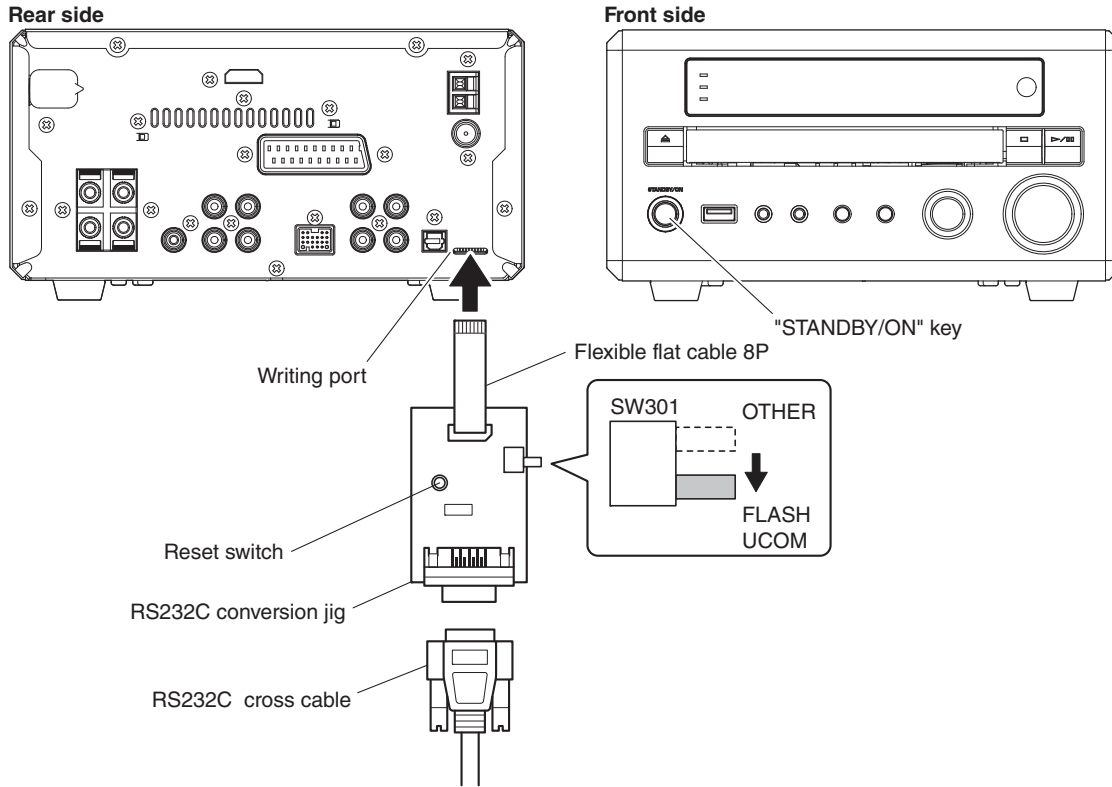

Fig. 1
2. Connect the writing port of this unit to the serial port (RS232C) of the PC with RS232C cross cable, RS232C conversion jig and flexible flat cable as shown below. (Fig. 1)
2. While pressing the reset switch of RS232C conversion jig, press the "STANDBY/ON" key of this unit to turn on the power. (Fig. 1)